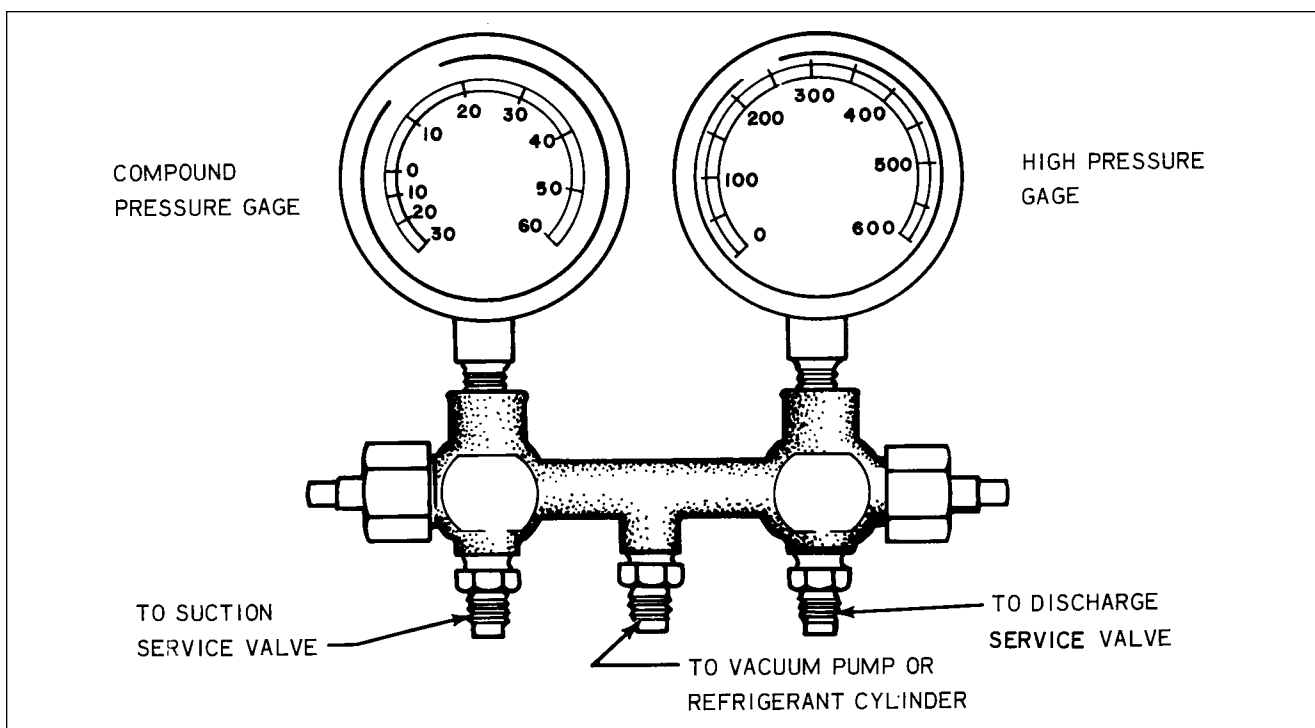

Figure 21-5. Test Gauge and Manifold Set
The proper testing and diagnosis of the air conditioning system require that a manifold gauge set be attached into the system. This set consists of two gauges mounted to a manifold. One gauge is a high pressure gauge used in the discharge side of the system. The other is a low pressure gauge used in the suction side of the system. The manifold is a device having fittings for both gauges and connection hoses with provisions for controlling the flow of refrigerant through the manifold. See Figures 21-5 and 21-6.
Cracking the hand valve, in the counterclockwise direction, opens the system to the middle service port of the manifold set. This is desirable only when it is necessary to let refrigerant out or into the system. Refer to Figures 21-5 and 21-6.
3. The high and low manifold hand valves should be in the closed position. (Refer to Figures 21-5 and 21-6.)